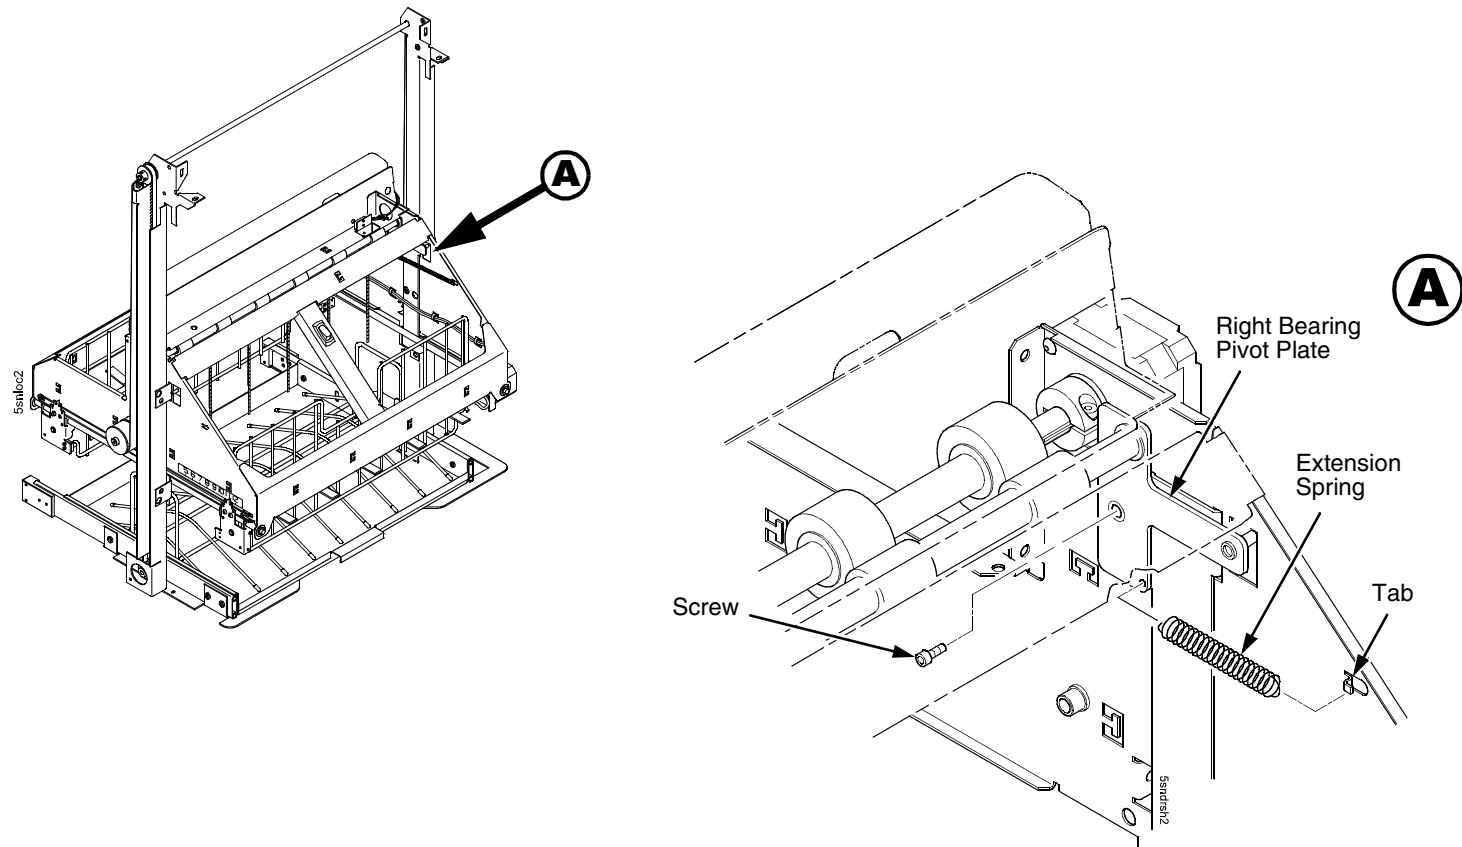

Figure 89. Right Bearing Pivot Plate and Extension Spring
2. Unhook the right bearing pivot plate's extension spring from the tab on the elevator. (Figure 89.)
3. Using an M-2 Allen wrench, remove the screw securing the right bearing pivot plate to the elevator. (Figure 89.)